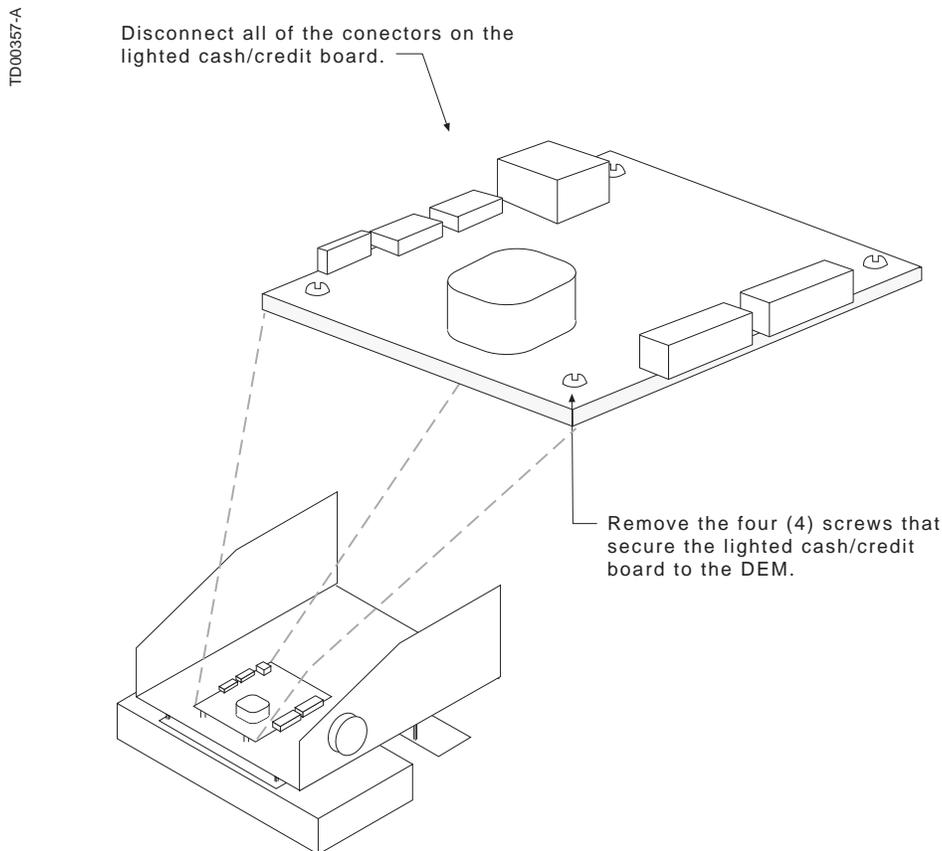

FIGURE 7-6. REPLACING THE LIGHTED CASH CREDIT INTERFACE BOARD. *When servicing this area, wire harnesses must be carefully placed to ensure proper operation.*
1. In order to access the cash/credit interface board remove the bezel from the dispenser and disengage the two quarter turn screws located above the display (see Figure 7-6.). This will allow the DEM to tilt out toward you allowing access to all internal electronic components in the dispenser.